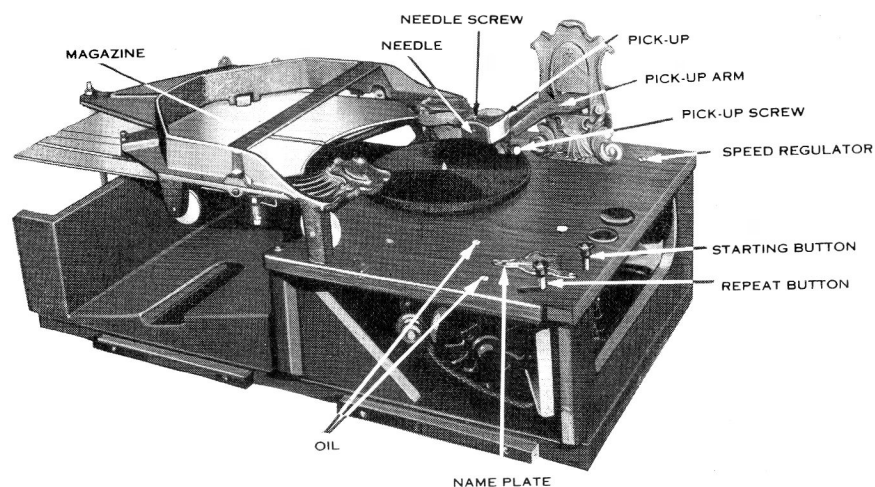

FIGURE 5
In case it is desired to play the same record over, the repeat Button *figure 5* is moved to the left. This moves Repeat Lever No. 809 *figure 2* causing it to press against Drive Dog No. 522 causing the Dog to recede and not catch on Eject Drive Arm No. 790. Eject Drive Arm No. 790 remains stationary and the Eject Slide does not move. The Cam revolves and the Turntable goes thru all of the elevating positions except the discard elevation. Eject Arm No. 790 does not allow Roller No. 845 to drop to the discard elevation in Cam No. 789 *figure 1*, thus the record will be repeated until the Repeat Lever is moved to the right.
In starting or rejecting records, the Starting Button *figure 5* is pressed. When this Button
THE ELECTRIC MOTOR ARMATURE SHAFT BEARINGS. Oil once every six months. Use nothing but light fine oil. Located on the upper side of the motor board *see figure 5* are two (2) pipe plugs marked "OIL", remove these plugs and inject a quantity of oil in *see figure 5* under them, this lubricates both armature shaft bearings. The wick type oil wells used on the bearings keep the bearings well lubricated for a six (6) month period of normal operation.